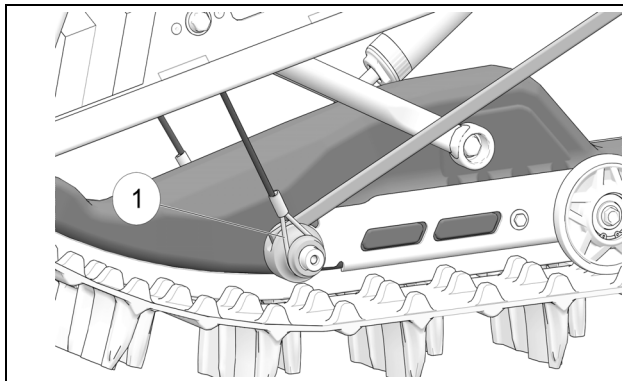

Figure 4
- Adjust the primary drive chain tension (1) by turning adjustment nut (2) at the rear of the tensioner (3) to eliminate play in the primary chain. See Figure 4.